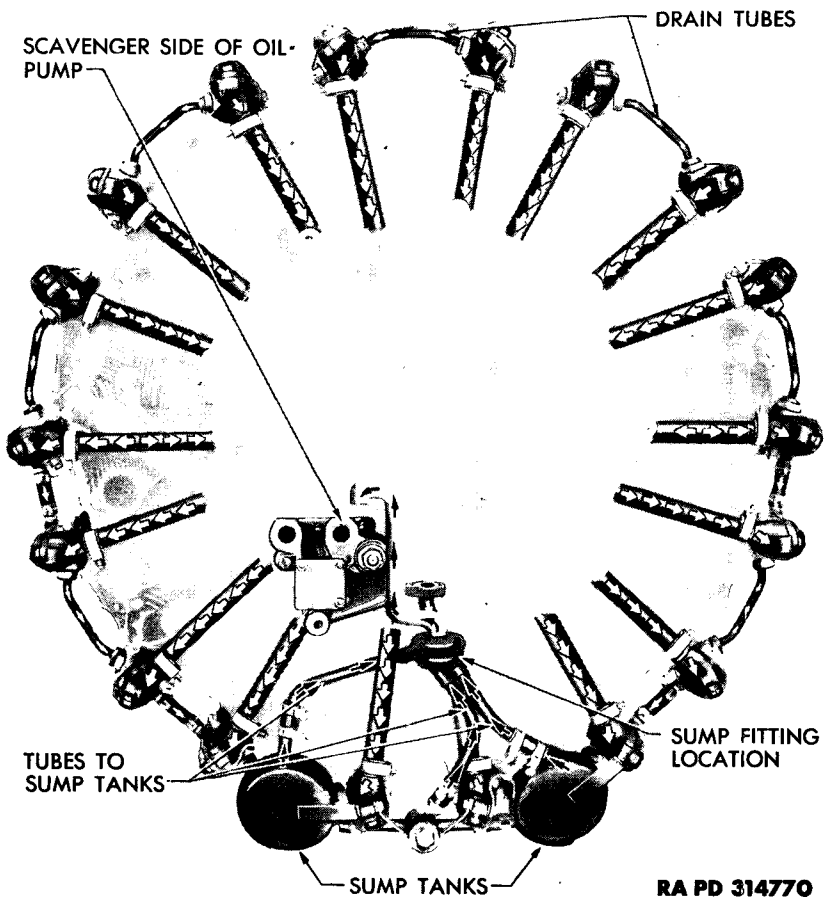

Figure 16 – Oil Scavenger System
(7) **OIL SCAVENGER SYSTEM** (fig. 16). Oil drains into the main crankcase section from the other crankcase sections through indexing holes and slots, and to the sump fitting in the rear bottom of the main crankcase section. Oil in the front crankcase section drains to the sump fitting in the forward bottom part of the main crankcase section. The oil is picked up from the sump fitting by the scavenger section of the oil pump and drawn through a passage, which runs through the main, diffuser, and rear crankcase sections. The pump forces the oil back to the oil supply reservoir in the vehicle. Oil which has drained down to the sump tanks is drawn up through tubes to the sump fittings.